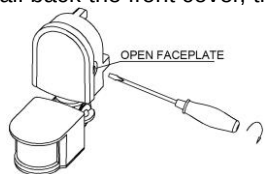

Figure1
- Unload the front cover directly by screw-driver. (figure1).Find the wire hole with gasket in the bottom and pass the power wire through hole.